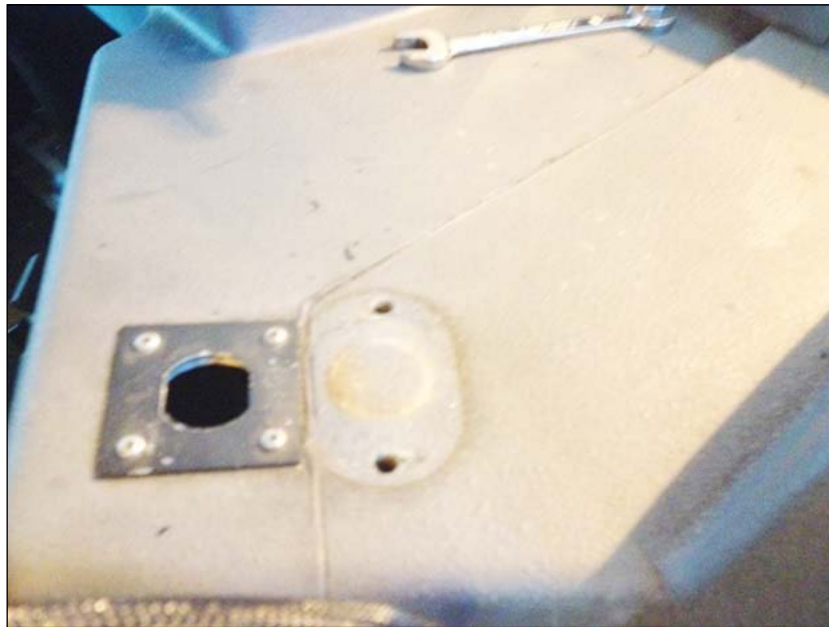

Figure 16 - Remove Transfer Ticket Holder and NTP Wiring
- 1.16. Remove the two bolts that hold down the transfer ticket holder and remove the holder. Retain for use during reassembly. Remove the NTP wiring if installed. Using a knife, cut the sealant between the left and right dash halves (see Figure 16).